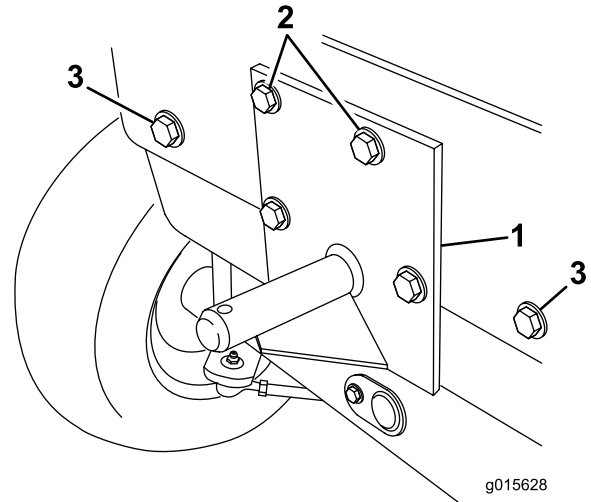

Figure 14
6. Position the rear hopper bracket on the rear frame as shown in Figure 14 while aligning the 2 bottom mounting holes with the holes in the frame. Using the bracket as a guide, locate, mark, and drill the remaining 2 holes (9/16 inch) in the rear frame.
7. On Models 30343 and 30344 with serial numbers 260000001 and up, install 2 bolts (1/2 x 1-1/4 inch) (from the kit) and 2 previously removed sets of lock washers (1/2 inch) and flat washers (1/2 inch) in the outer frame holes to secure the inside weight (Figure 14).
1-1/4 inch), mounting strap, and 2 locknuts (1/2 inch) (Figure 14).
9. On traction units with serial numbers 260000001 and up, mount the top of the rear hopper bracket to the frame using 2 bolts (1/2 x 3 inch), mounting strap, 2 flat washers (1/2 inch), and 2 locknuts (1/2 inch) as shown in Figure 14.